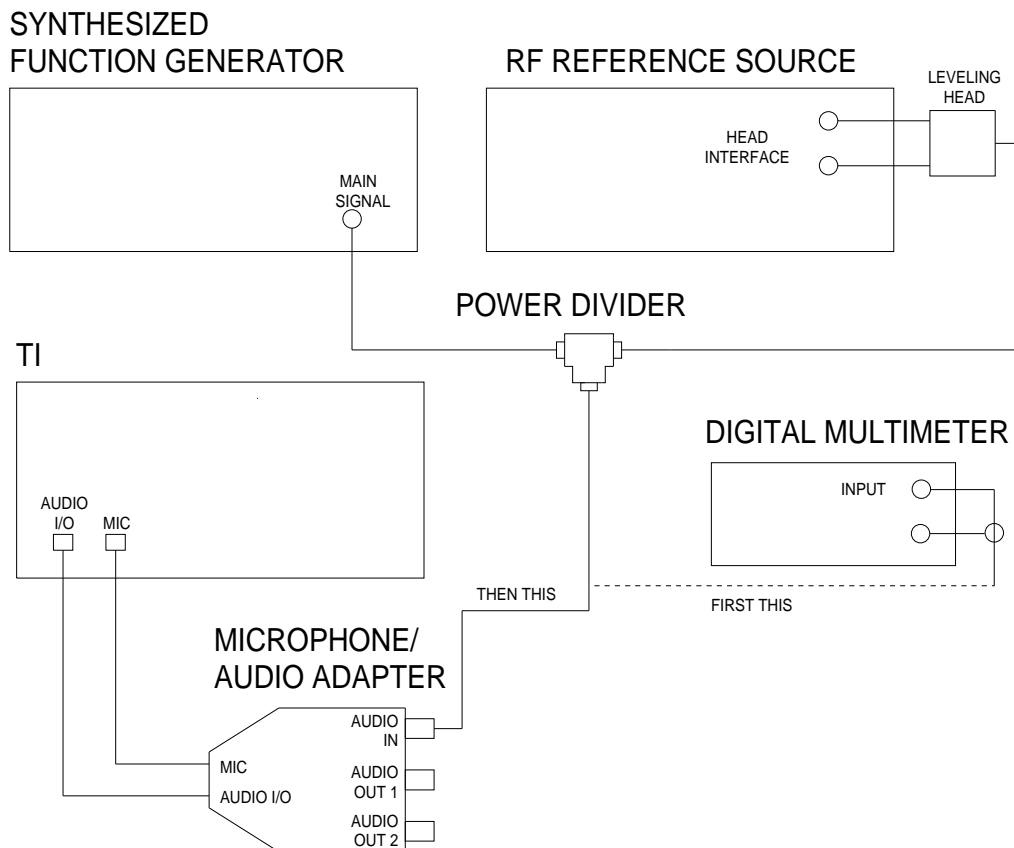

Figure 4.
4.13.2 Connect equipment as shown in Figure 4 with the Power Divider input connected to the Digital Multimeter input.
4.13.12 Set all outputs to minimum. Connect equipment as shown in Figure 4 with the Power Divider input connected to the Digital Multimeter input.